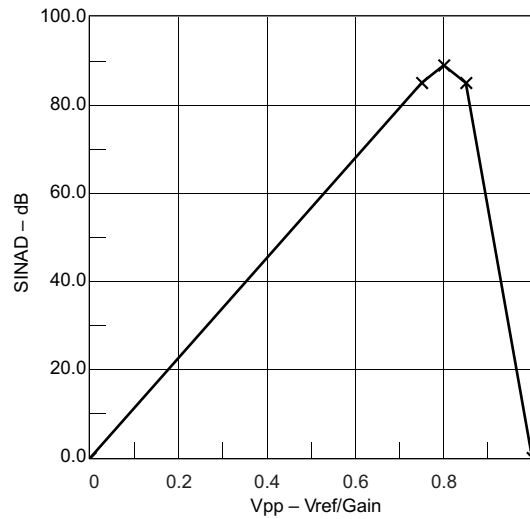

Figure 5-18. SINAD vs V_{pp}
(1) The following voltages were applied to the SD24_B inputs: $V_{I,A+}(t) = 0\text{ V} + V_{PP} / 2 \times \sin(2\pi \times f_{IN} \times t)$ and $V_{I,A-}(t) = 0\text{ V} - V_{PP} / 2 \times \sin(2\pi \times f_{IN} \times t)$ resulting in a differential voltage of $V_{ID} = V_{I,A+}(t) - V_{I,A-}(t) = V_{PP} \times \sin(2\pi \times f_{IN} \times t)$ with V_{PP} being selected as the maximum value allowed for a given range (according to SD24_B recommended operating conditions) (also see Figure 5-18).